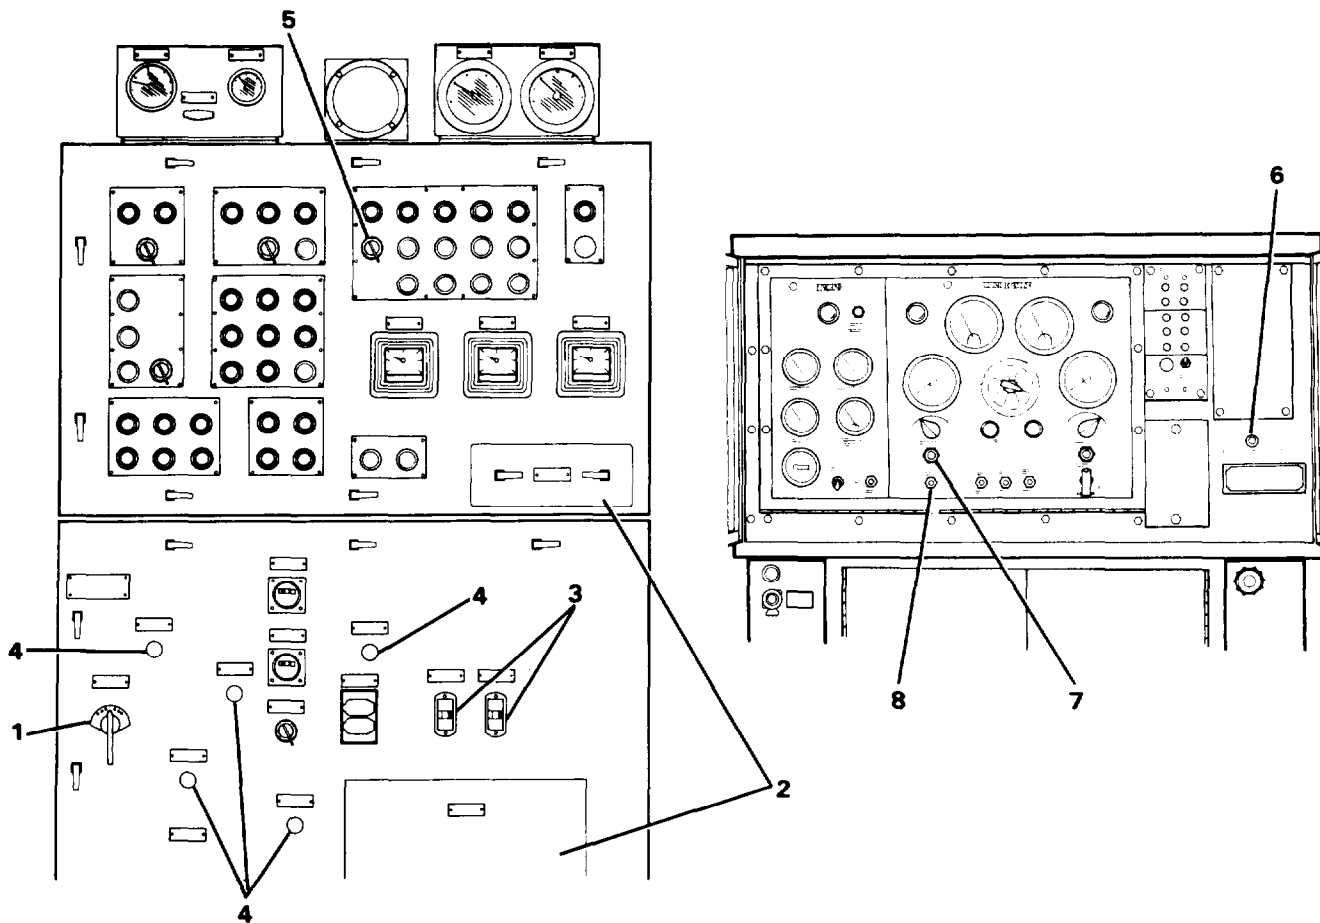

Figure 2-79. Restore Power to ROWPU
- (1) Restore power. Follow this procedure even if the ROWPU is still powered (Figure 2-79).
- (a) Open MAIN circuit breaker (1).
- (b) Check all circuit breaker resets (2) to be sure they are reset and in the ON position.
- (c) Check the GROUND FAULT resets (3) to be sure they are reset and ON.
- (d) Push all MOTOR STARTER resets (4).
- (e) Turn COMPRESSOR switch (5) to OFF.
- (f) Check diesel generator operation. Check the DC control breaker button (6). It should be pushed in. If the PANEL ENERGIZED light (7) is off, turn generator circuit breaker toggle switch (8) to ON.